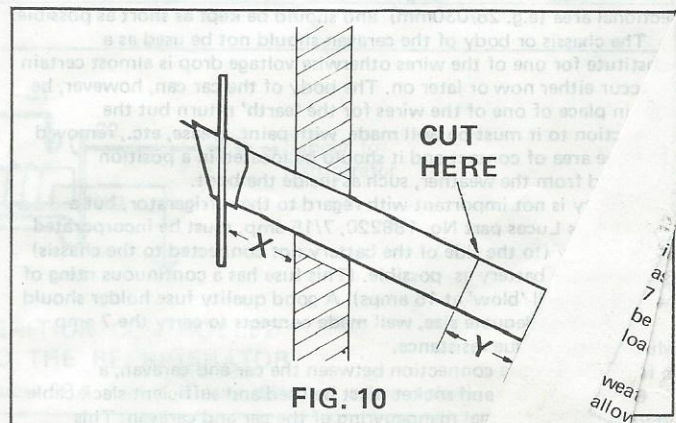

FIG. 10
When the opening has been made in the caravan wall, the extension tube (F) may need to be shortened to suit the particular installation. To determine if this is necessary, fit the flue top (G) to the top of the central tube of the boiler casing (or to the top of the optional flue pipe 343995, if being used) and secure it by means of the screw (I). Place the refrigerator into position, push the extension tube (F) into the tapered opening of the flue outlet (C) so that the two items fit firmly together, then insert the free end of the extension tube through the wall of the caravan and over the outlet of the flue-top as far as it will go. Measure the length 'X' (fig.10) of any tube protruding from the outside. Transfer this measurement to the other end of the tube as shown at 'Y' (fig.10) and cut at right angles through the tube at this point to shorten the tube to the correct length.